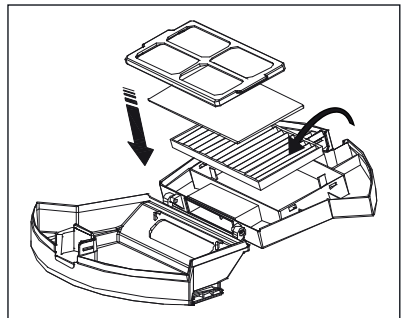

Fig. 13
- 8) Place the EPA filter **7** and the foam filter back in the compartment and attach the sieve filter to the compartment. Close the dust container **14** (see Fig. 13).